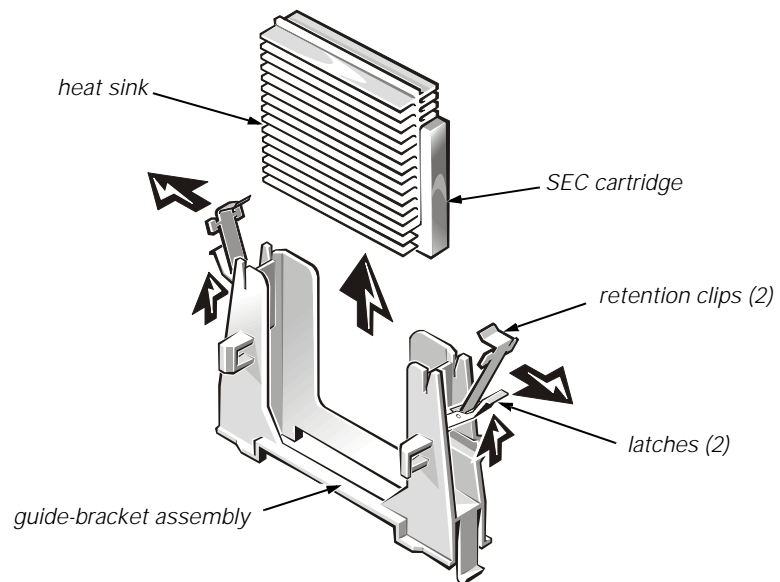

Figure 1. Removing a Microprocessor or Terminator Card
4. Lift the latches on each end of the guide bracket assembly (see Figure 1). Pivot the retention clips away from the guide bracket assembly, then slide the SEC cartridge or terminator card out of the guide bracket assembly.